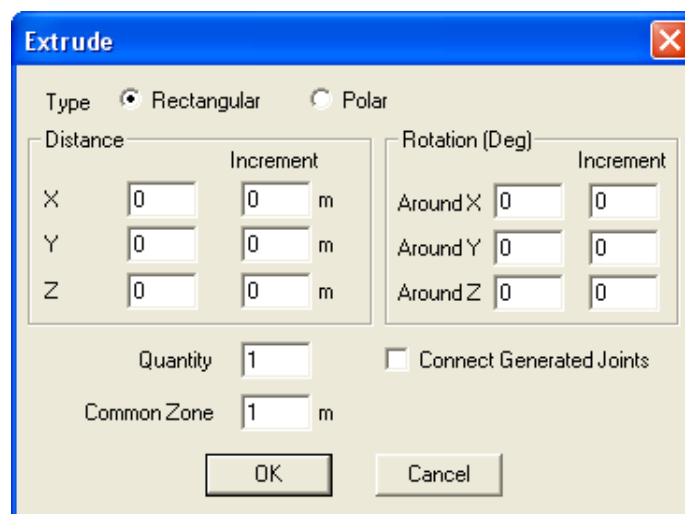

Figure 6-7 Copy dialog box
- In the Graphics area, using the left-mouse button, click on a base joint. The base joint must be a selected joint. The dialog box of Figure 6-7 appears.